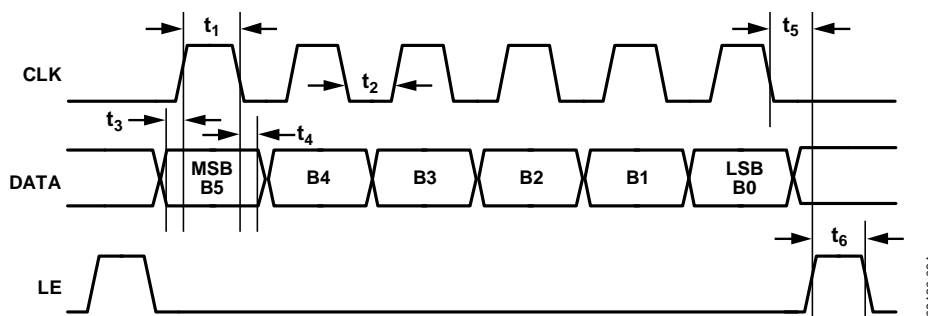

Figure 34. SPI Timing Diagram (Data Is Loaded MSB First), Serial Mode
Table 5 provides details about the timing characteristics for the SPI signals—namely, the clock (CLK), latch enable (LE), and data (DATA) signals—and Figure 34 shows the corresponding SPI timing diagram.